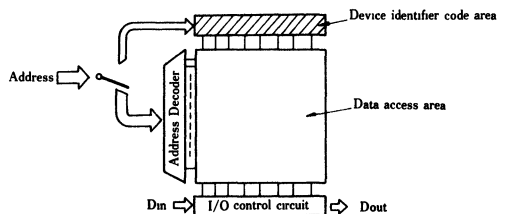

Figure 6-12. Device Identifier Code
Different programming conditions are as follows: (1) program voltage, (2) program timing, (3) high-performance programming algorithm, (4) pin configuration. The Hitachi EPROM has a device identifier code area besides the memory access area, as shown in figure 6-12.